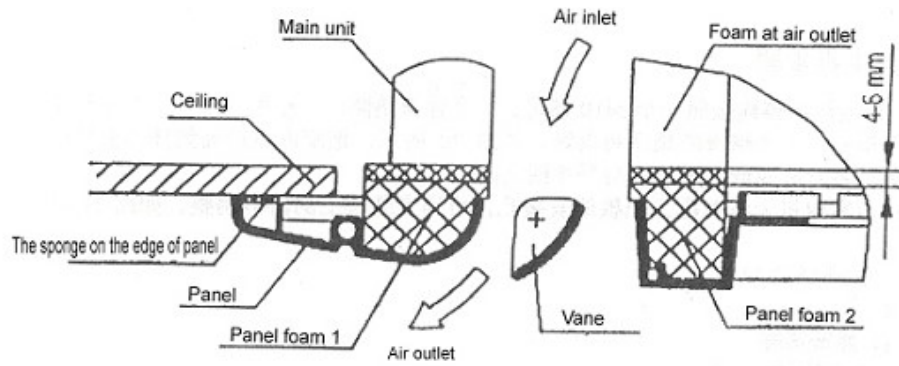

Fig 12
- (2) In installation, put the hooks of swing motor and the panel onto the hook of water pan on the main unit (as shown in Fig 12①), and then put the rest two hooks of the panel onto the suspending support of the main unit (as shown in Fig 12②);
(6) Continue to tighten evenly the bolts under the hooks till the thickness of the sponge between the main unit and the panel is reduced to 4~6mm, and the edges of the panel are all contact well with the ceiling (See Fig 12)